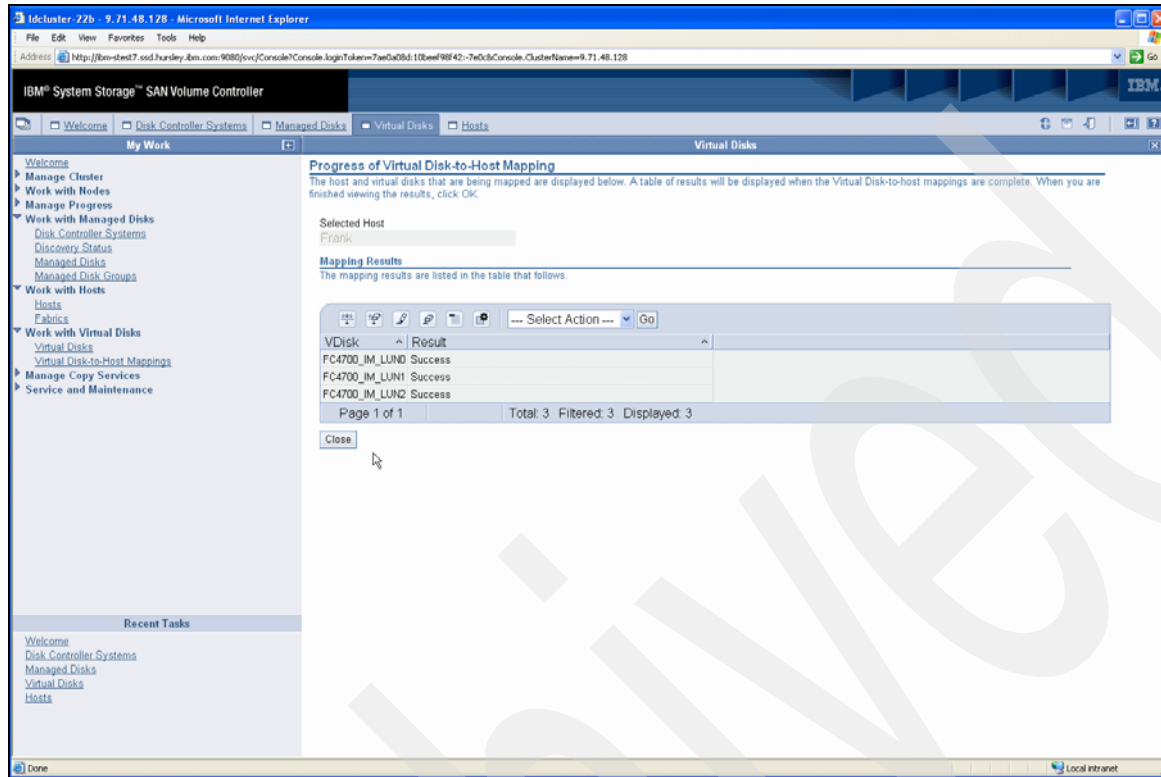

Figure 6-30 Completion panel from map VDisk to Host operation
5. Figure 6-30 shows the completion panel, which should indicate that your VDisks have been mapped successfully.